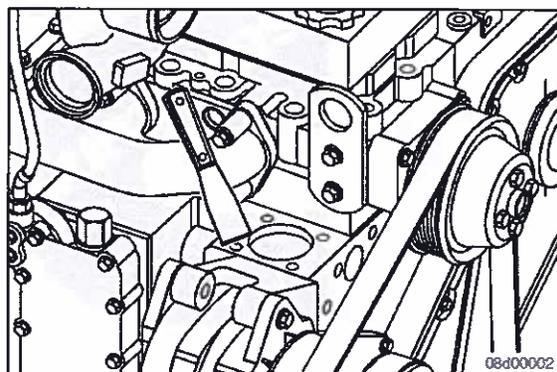

Fig. 3
7. Clean all of the mating surfaces. (Fig 3)